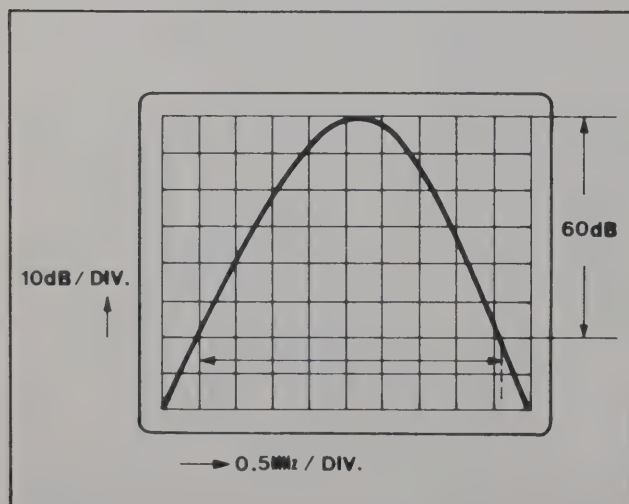

Figure 4.6 Bandwidth Selectivity Test Display
- d. Set IF GAIN to 10 dB, and REFERENCE LEVEL will display 100 dBuV (Figure 4.6).